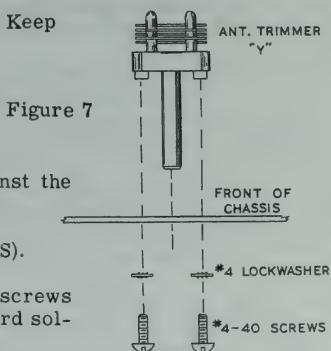

Figure 7
- (✓) Connect a 150  $\mu\text{mf}$  mica capacitor from S3 (NS) to S1 (NS). Keep the leads short to avoid future movement of the capacitor.
- (✓) Connect a bare wire from S1 (S) to C4 (S).
- (✓) Connect a bare wire from S2 (S) to C2 (NS).
- (✓) Connect a wire from C2 (S) to W2 (S). Run this wire against the chassis.
- (✓) Connect a 33  $\mu\text{mf}$  ceramic capacitor between C1 (S) and S3 (S).
- (✓) Mount the small antenna trimmer capacitor at Y using 4-40 screws and lockwashers. Position as shown. Bend lug 1 down toward solder lug FF so it touches the solder lug (NS). See Figure 7.